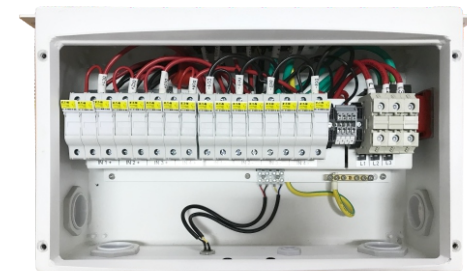

Figure 3.10 Eight (8) input channels
Figure 3.10 Shows eight (8) input channels for connecting DC strings. Each channel is protected by a fuse. The included fuses are rated at 15A. Change fuse with like type, do not exceed 20A maximum fuse rating.